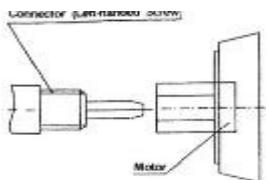

fig.3
7.Let them be at a suitable place when the motor is connected to the vibrating head. Screw the connector of the vibrating head on the motor (as fig.3).